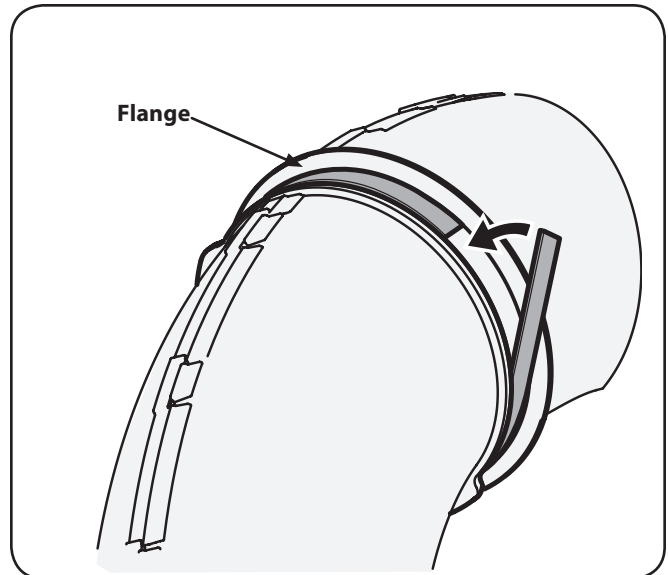

Figure 4-24
1. Peel the backing off of the self-adhesive foam strip (721-04388) that has been included within your Contents of Carton. Apply it to the upper chute, flush against the flange as shown in Figure 4-24.